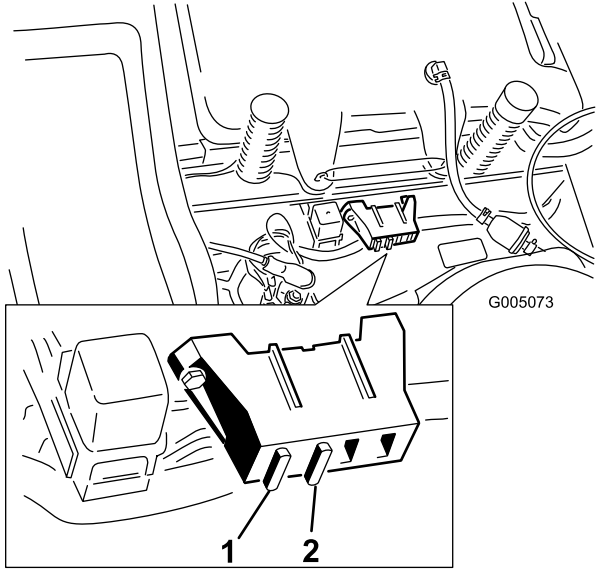

Figure 43
- Raise the seat to gain access to the fuse holder (Figure 43).
- To replace a fuse, pull out on the fuse to remove it (Figure 43).